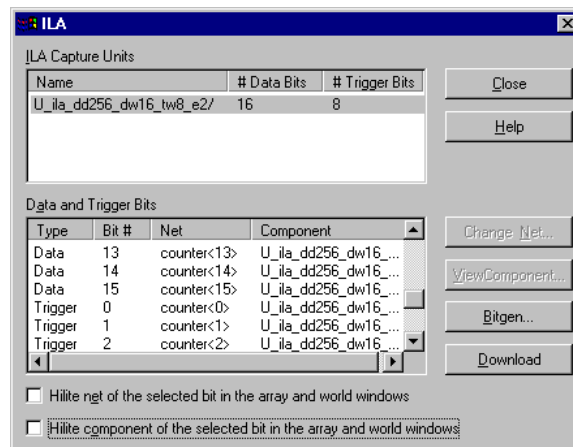

Figure 11: ILA Dialog Box
2. Select **Tools** → **ILA** to display the *ILA* dialog box (Figure 11).